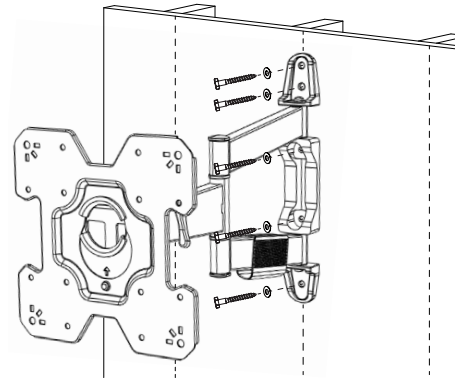

Fig 1
Step 2: Mount the Wall Arm Assembly for mounting on a stud wall (Fig 1)